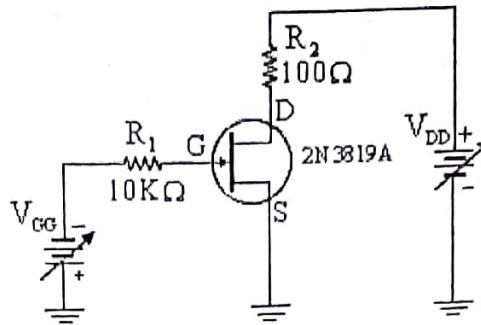

Fig.4: JFET Circuit
2. Construct the circuit shown in Figure 4. Start with V_{GG} and V_{DD} at 0 V. Connect a voltmeter between the drain and source. Keep V_{GG} at 0 V and slowly increase V_{DD} until V_{DS} is 1.0 V. (V_{DS} is the voltage between the transistor's drain and source).